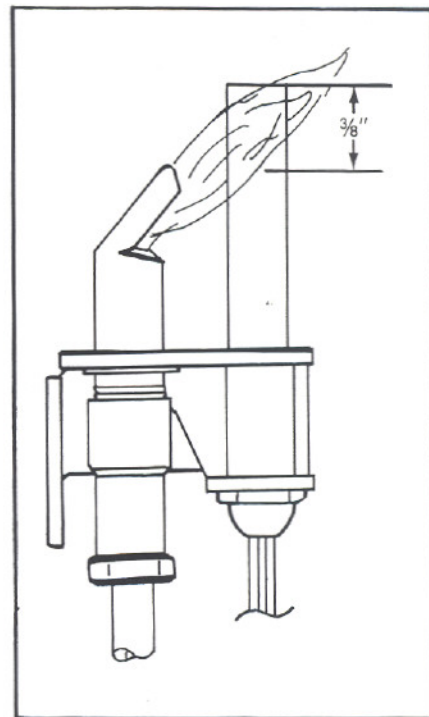

Figure 7
2. Adjust the Pilot key to provide properly sized flame. See Figure 7.
Periodically visually check the flame of the Pilot and Burner, making sure the flames are steady; not lifting or floating. The flame color should be blue. The top 3/8" of the Pilot Thermopile should be covered with flame. See Figure 7.